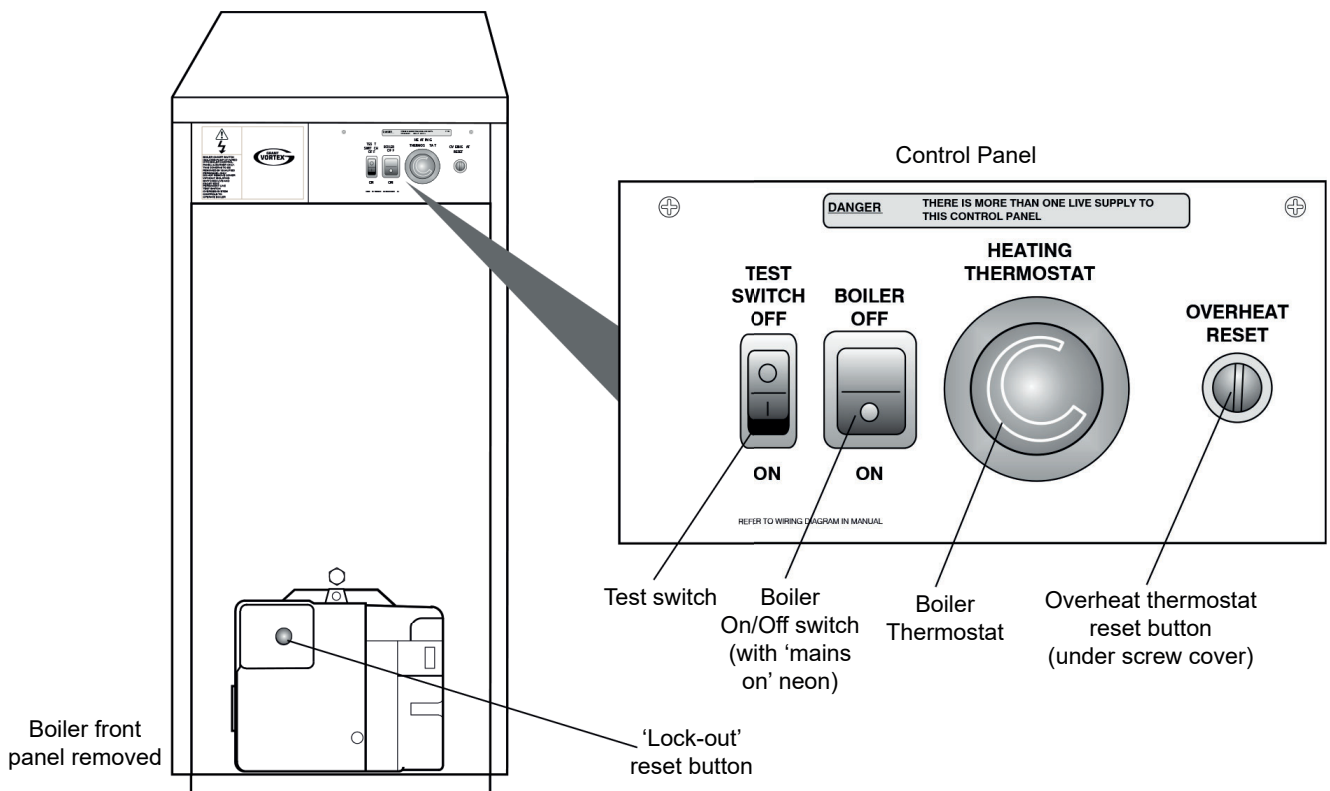

Figure 1-1: Vortex module boiler control panel and reset button
Grant Vortex Outdoor Modules and External boilers have a 'mains on' neon, see Figure 1-1, which lights when the boiler is switched on.
To gain access to the boiler controls, remove the front casing door by turning the handle at the bottom anti-clockwise, pulling the door out at the bottom and withdrawing it from the casing to reveal the boiler controls as shown in Figure 1-1.
4. Check if the burner 'Lock-Out' reset button on the burner body (refer to Figure 1-1 for location) is lit.
Refer to Figure 1-1 for the location of the control panel within the boiler casing and for the details of the control panel.
To reset the overheat thermostat, unscrew the small plastic cap marked "overheat reset" (see Figure 1-1), press the button and replace the cap.
A test switch is fitted to the control panel (see Figure 1-1) to allow the Service Engineer to test-fire the boiler without requiring access to the inside of the property.